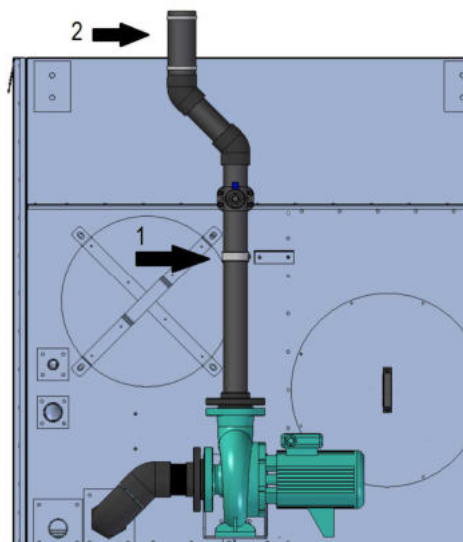

Fig.14
Note: the glueing of the pipe to the fittings must be carried out by experienced personnel, any leakage in the pipe section will not be attributable to W-tech. Then connect the pvc flange to the pump. Do not forget to interpose the seal between the pvc flanges and the pump before tightening the flanges. Finally, position the delivery pipe to the upper flange of the pump, remembering to put the gasket, fix it to the frame of the unit through the collar (1), supplied with the pipe, and join it to the pipe fixed to the upper section through the rubber pipe and the clamps (2). See fig. 14.